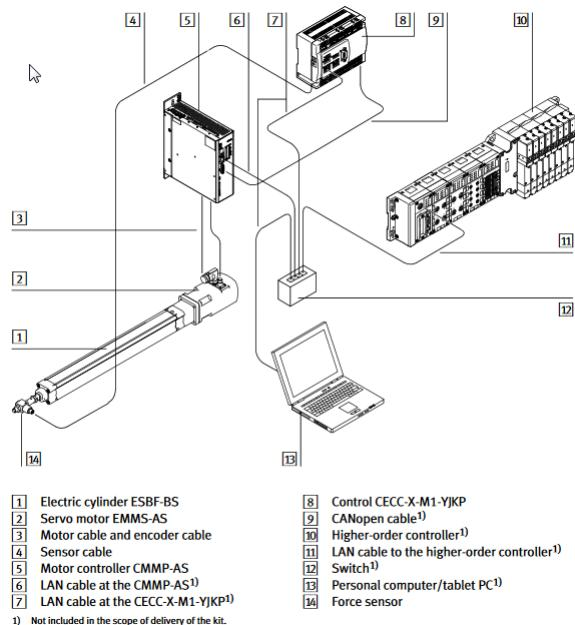

Figure 5-1: Connection overview
1. The servo press kit must be connected like in the shown Figure 5-1: Connection overview.